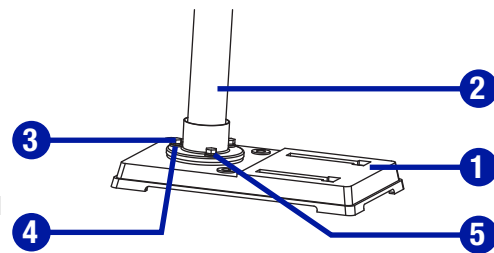

Fig. 2
**BASE TO COLUMN (Fig. 2)**
- Set the base (1) on the floor.
- Place the column tube (2) on the base (1), align the column support holes with the base holes.
- Install a bolt M8 x 25 (3), a flat washer M8 (4) and a spring washer M8 (5) in each column support hole and tighten with the wrench.